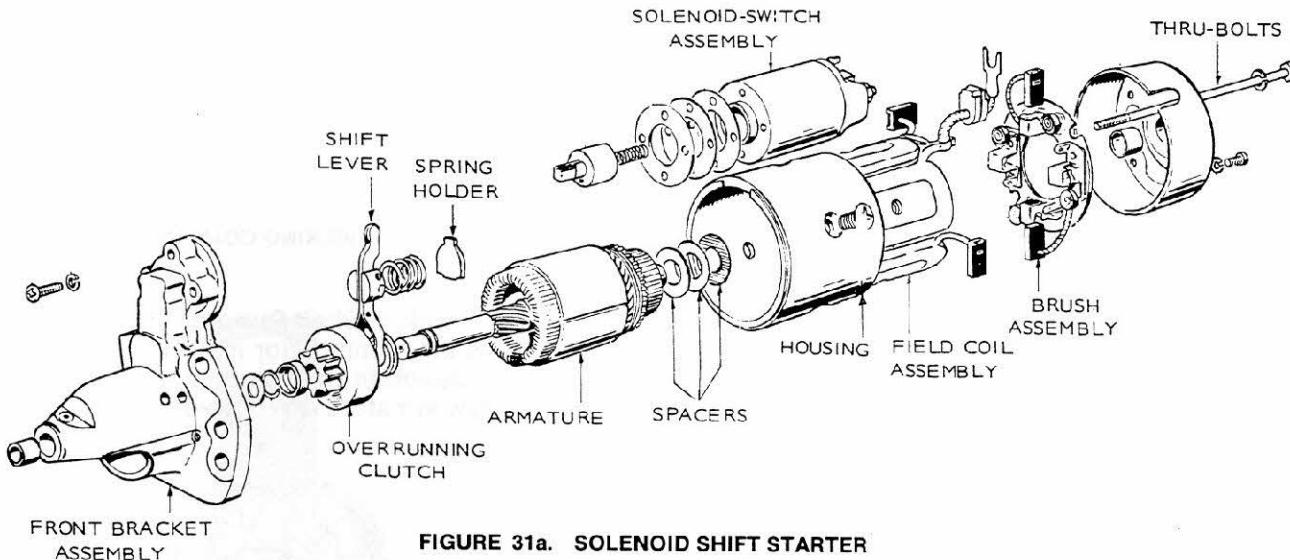

FIGURE 31a. SOLENOID SHIFT STARTER
**4. Solenoid Starter Only:** The armature can now be removed from the front bracket. Be careful not to miss the small steel washer used in the end of the armature shaft. Remove the shift lever at the same time the armature is removed. The spring holder, lever springs, and retainer can be removed prior to removing the lever (Figure 31a).